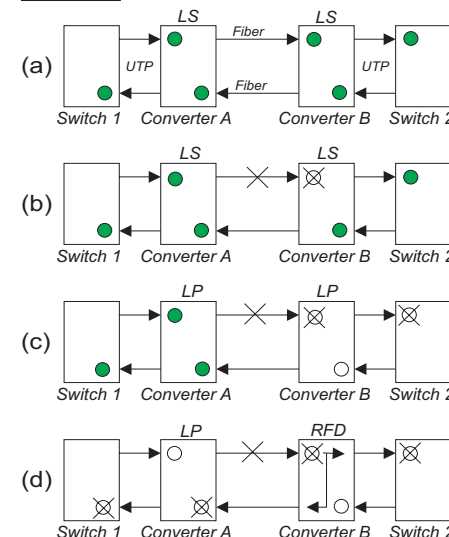

Fig 2: Link Modes
In “Link Segment” (LS), sometimes referred to as the “Normal” mode, a port transmits a “Link” signal independently of any received “Link” at any other port. For example, the UTP transmits a “Link” regardless of the fiber receiving a “Link” [Fig 2(b)].
In “Link Propagate” (LP), sometimes referred to as “Link Loss Carry Forward”, a port transmits a “Link” signal only when receiving a “Link” at its other port. For example, the UTP transmits a “Link” only when receiving a “Link” at the fiber port. [Fig 2(c)].
In “Remote Fault Detection” (RFD), the UTP port transmits a “Link” signal only when receiving a “Link” at the fiber port. The fiber port transmits a “Link” only when receiving “Link” signals both at the fiber port and the UTP port. As a result, fiber faults (no “Link” received at the fiber) are looped-back and can be reported to the network’s core [Fig 2(d)].